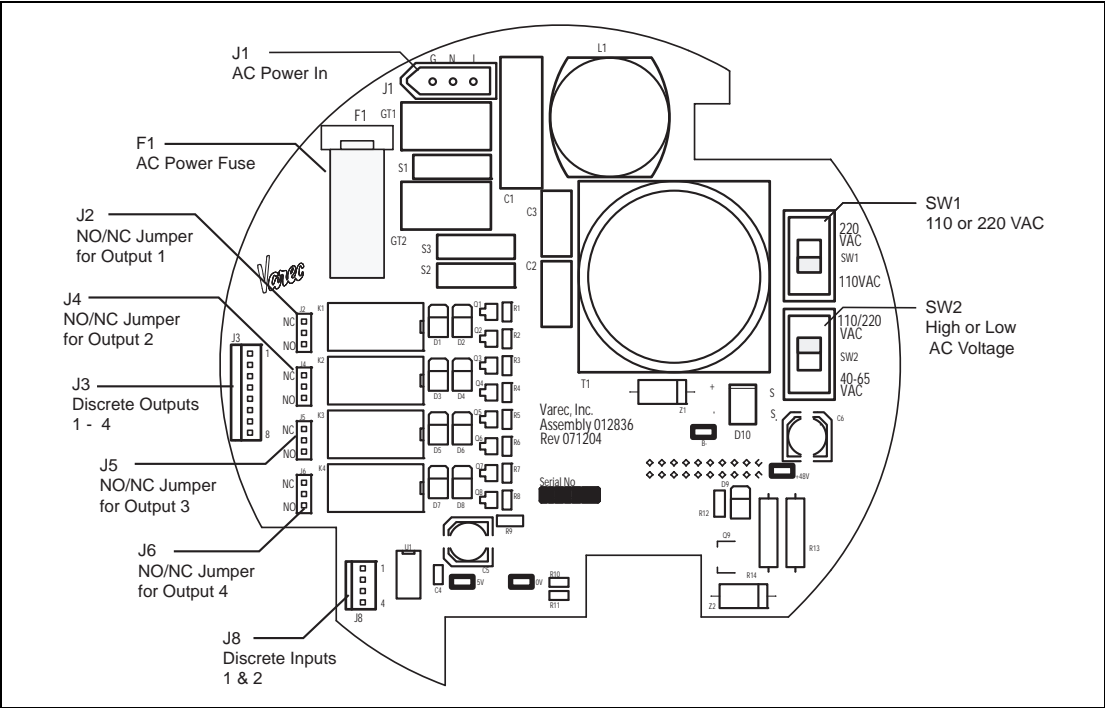

Figure 4-12: AC Power Supply Circuit Board, Top View
Each of the four discrete outputs on the AC Power Supply circuit board can be set to operate as Normally Closed (NC) or Normally Open (NO). A jumper connector determines the setting for each output, as shown in Figure 4-12 and in Table 4-5.